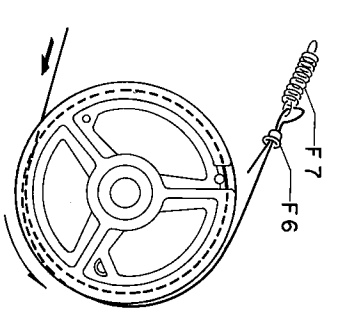

Fig. 5.6
(3) Referring to Fig. 5.6, put the dial thread end (free end) on F6 (Thread Guide) and fix it with F7 (Pulley Spring).